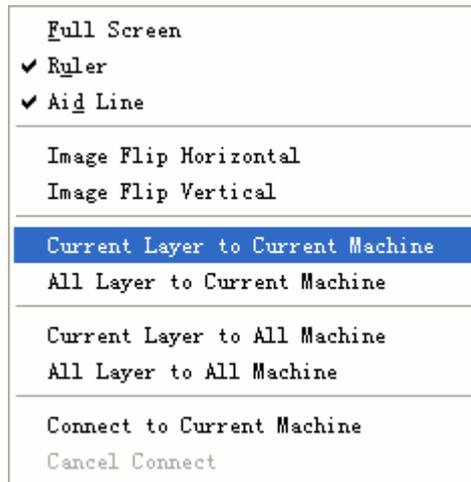

Figure 2-35 Add Task
2. The graph shows in the view, click mouse right button in the graph to add mission, likes the Figure 2-35 shows: